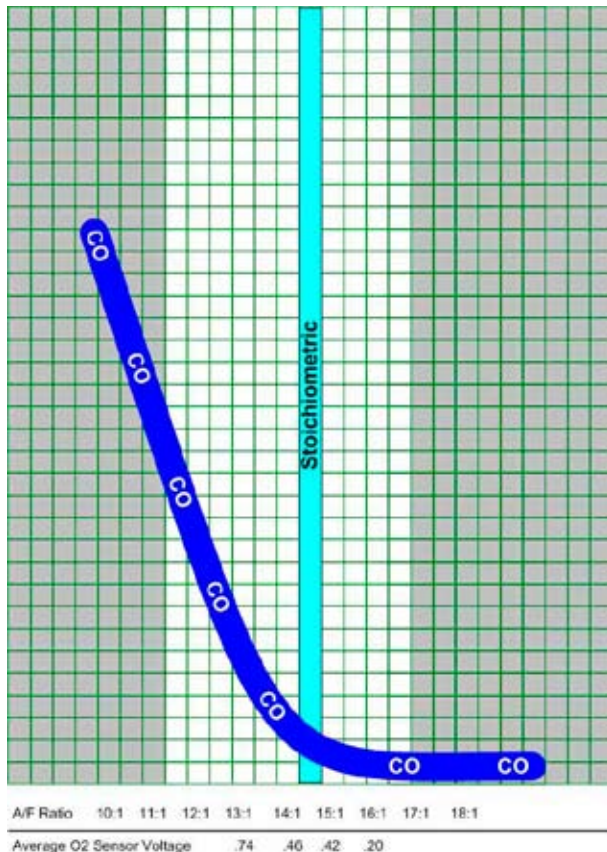

Figure 2: CO vs. air/fuel ratio
One can easily observe that as the air/fuel ratio becomes richer than stoichiometric, Carbon Monoxide (CO) increases significantly (see Figure 2). This is the only one of the five gases that behaves in this manner, and therefore, is an excellent indicator of a rich air/fuel mixture. At the stoichiometric air/fuel ratio, the engine-out level of CO will be about .45%! However, you will also notice that as the air/fuel ratio becomes leaner than stoichiometric, the CO chart more or less flattens out. CO is a great indicator of a rich air/fuel ratio, but it is not a good indicator of lean air/fuel mixtures.